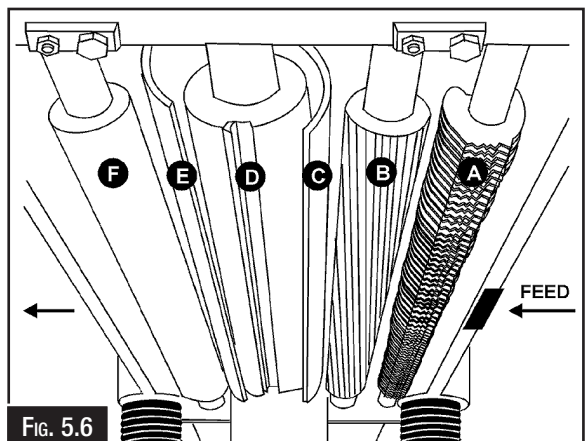

FIG. 5.6
The in-feed roller (B), (Fig. 5.6) and out-feed roller (F), (Fig. 5.6) are those parts of your planer that feed the stock while it is being planed. The in-feed and out-feed rollers are under spring tension and this tension must be sufficient to feed the stock uniformly through the planer without slipping but should not be so tight that it causes damage to the board. The tension should be equal at both ends of each roller.
The anti-kickback fingers (A), (Fig. 5.6) help prevent kickback of stock. They operate by gravity and it is necessary to inspect them occasionally to make sure they are free of gum and pitch, so that they move independently and operate correctly.
The in-feed roller (B) (Fig. 5.6) and out-feed roller (E) (Fig. 5.6) are those parts of your planer that feed the stock while it is being planed.